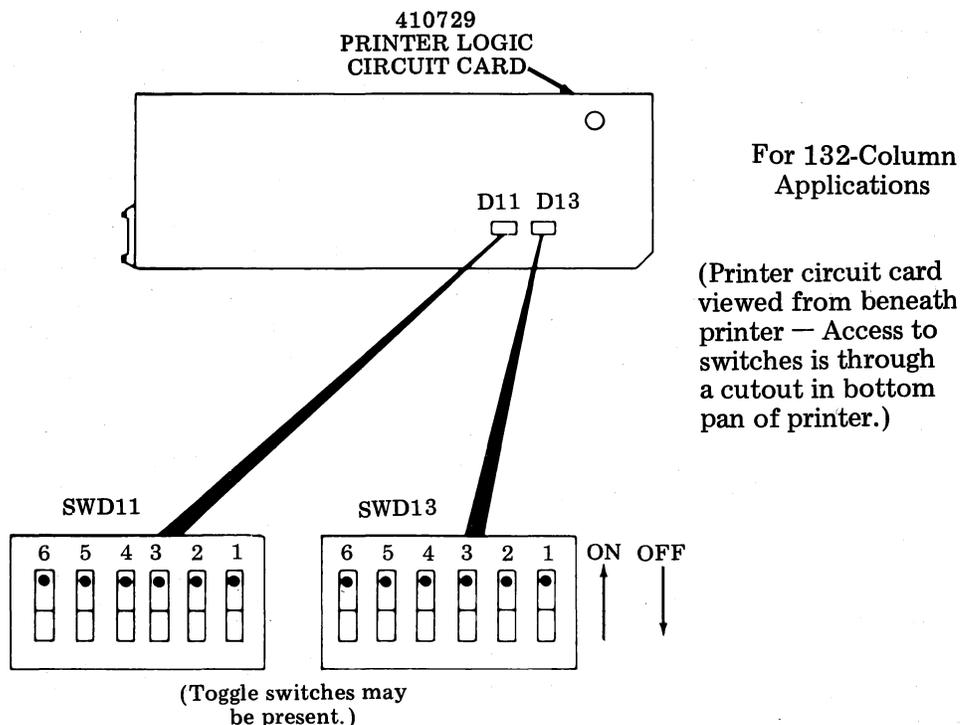

Fig. 105
4.30 Printer Options for 410729 Circuit Card. See Fig. 105. (Also see 4.34.)